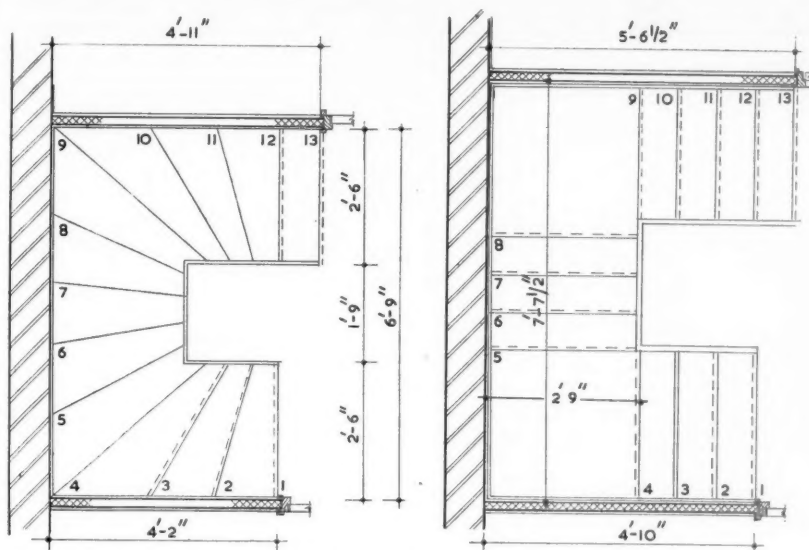

Fig. 14. Plan showing the space-saving achieved by the 'constant-going' stair
**Constant-going Stair.** An internal 'constant-going' stair, curved on plan with radial steps (Fig. 14), was designed to save floor space in houses and maisonettes. The design was intended to give a constant going of 8½ in. at a distance of 12 in. from the inner string, by which means it was hoped to avoid the dangers of ordinary winders. Some modification of the design, with a tolerance in the width of treads, has had to be permitted in practice, however, to make the construction of the stair in timber economical. The stair is being tried experi-